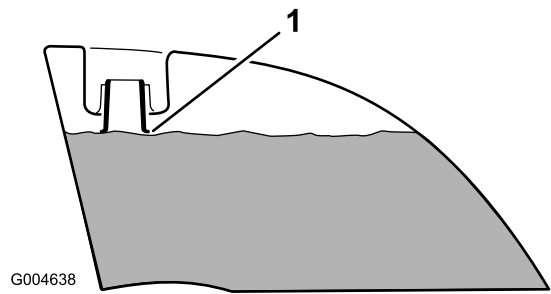

Figure 10
4. Add fuel to both fuel tanks, until the level is even with the bottom of the filler neck (Figure 10). Do not over fill the fuel tanks.